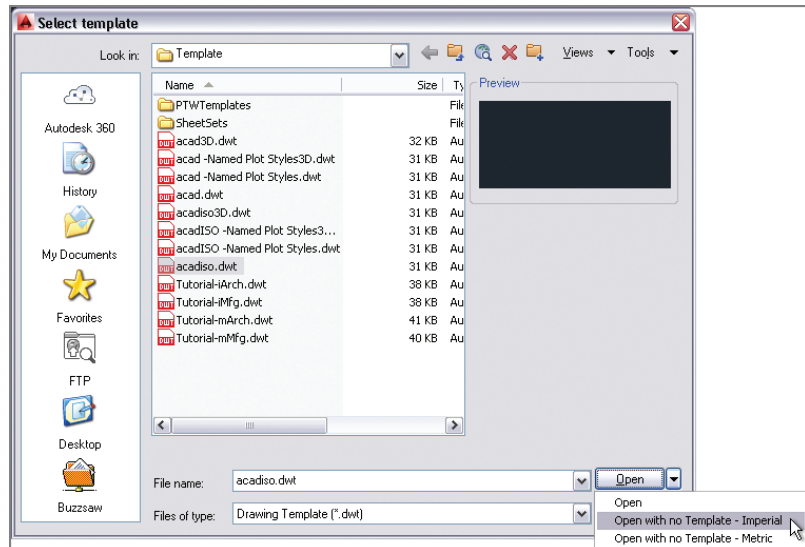

FIGURE 1.16 Opening a drawing with no template
1. Click the New button on the Quick Access toolbar. Click the arrow button next to the Open button in the Select Template dialog box, and choose Open With No Template – Imperial (see Figure 1.16).